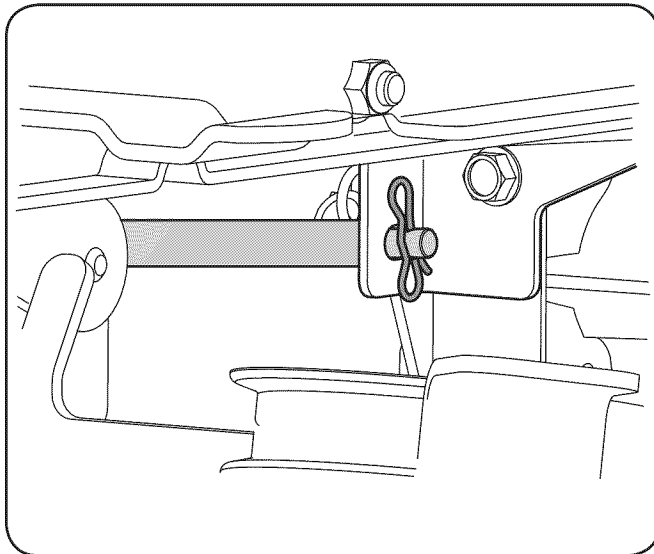

Figure 7-5
9. **On 50" Decks:** Remove the bow-tie cotter pin connecting the deck sway rod to the tractor frame. See Fig. 7-5.